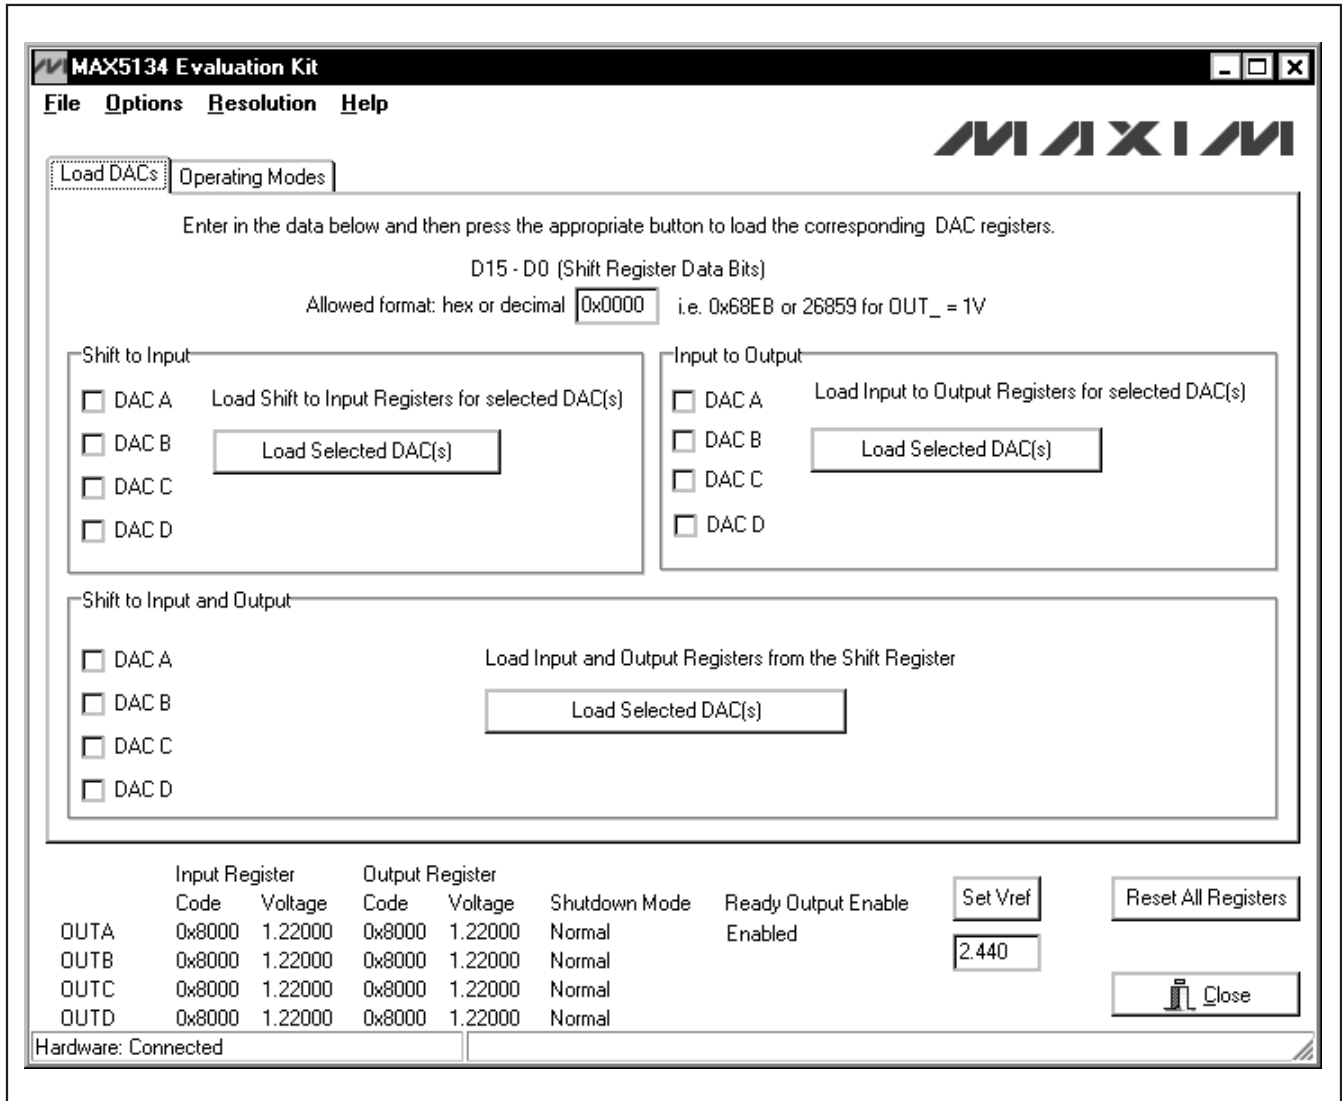
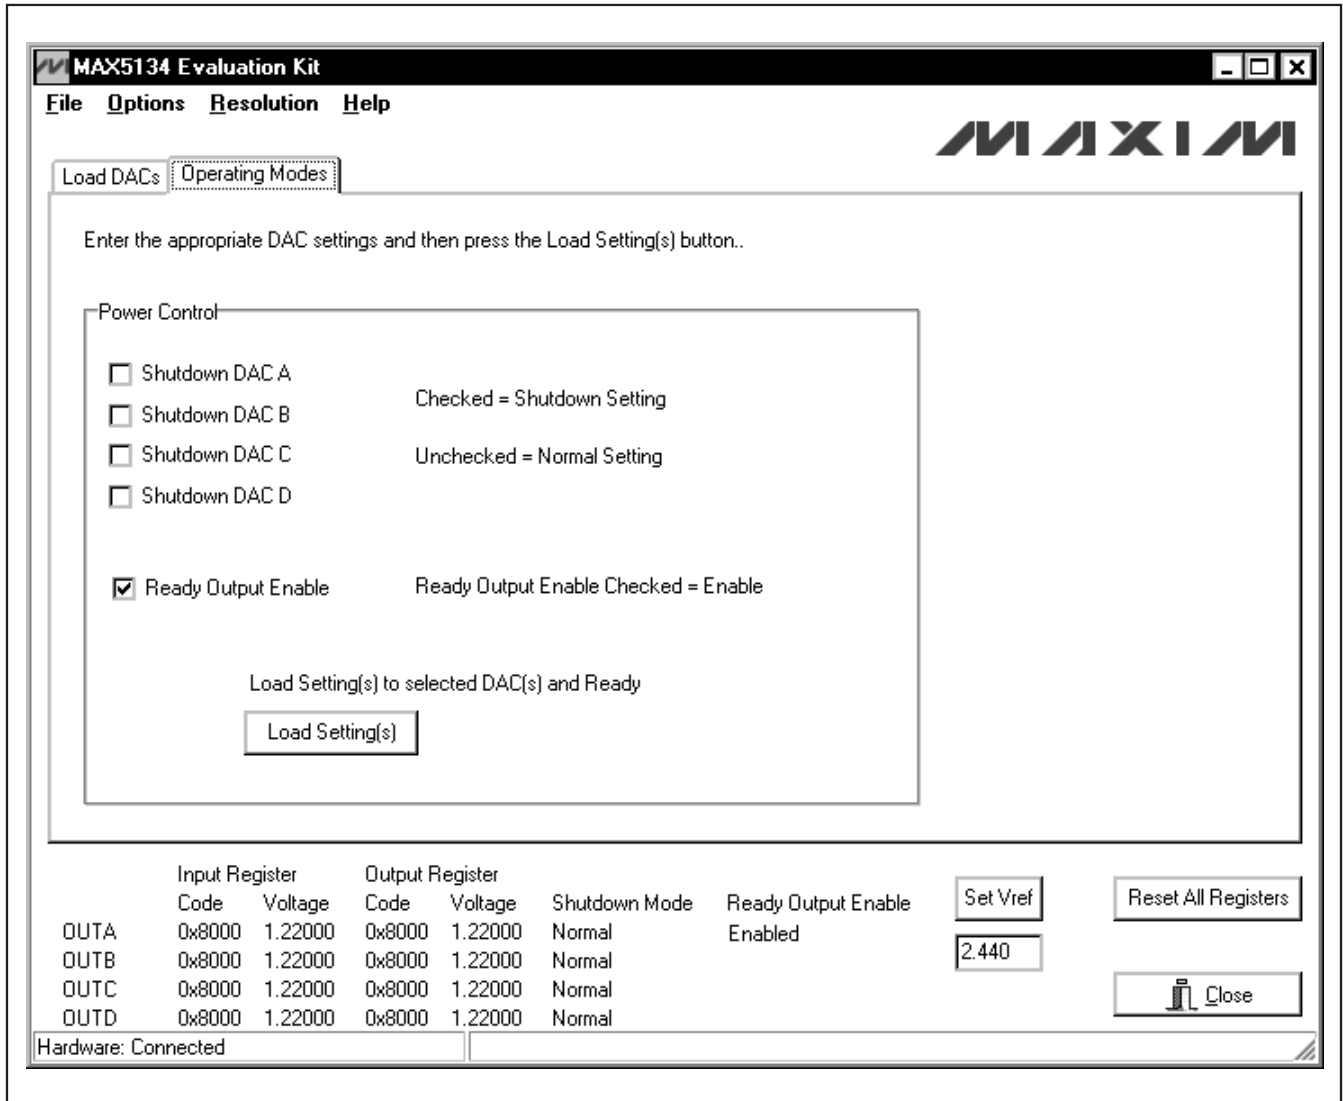

Figure 1. MAX5134 EV Kit Software Main Window (Load DACs Tab)
Figure 2. MAX5134 EV Kit Software Main Window (Operating Modes Tab)
- 7) When the **Power Up State Of DAC Outputs** window appears, verify that the JU6 shunt is in the proper location on the board and press the corresponding radio button. Next, the EV kit software main window appears, as shown in Figure 1.
The main window of the evaluation software (Figure 1) displays the voltage and code for all DAC input and output registers. In addition, the main window has two tabs. The **Load DACs** tab sheet controls all of the DAC loading features of the MAX5134. The **Operating Modes** tab sheet (Figure 2) controls all of the DAC modes of the MAX5134. The **Load Setting(s)** button must be pressed to write the corresponding mode settings to the DAC(s).